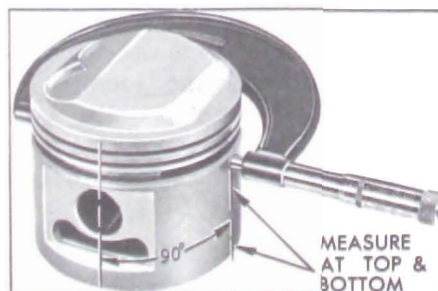

Figure 2-34—Measuring Piston with Micrometer
The pistons are cam ground, which means that the diameter at a right angle to piston pin is greater than the diameter parallel to piston pin. When a piston is checked for size it must be measured with a micrometer applied to skirt at points exactly 90 degrees to piston pin. See Figure 2-34. Measurements should be made at top and bottom ends of skirt; the diameter at top end will normally be very slightly less than at bottom end after a piston has been in service in an engine.
3. Measure the piston to be installed. See Figure 2-34. The piston must be measured at right angles to the piston pin below the oil ring groove.